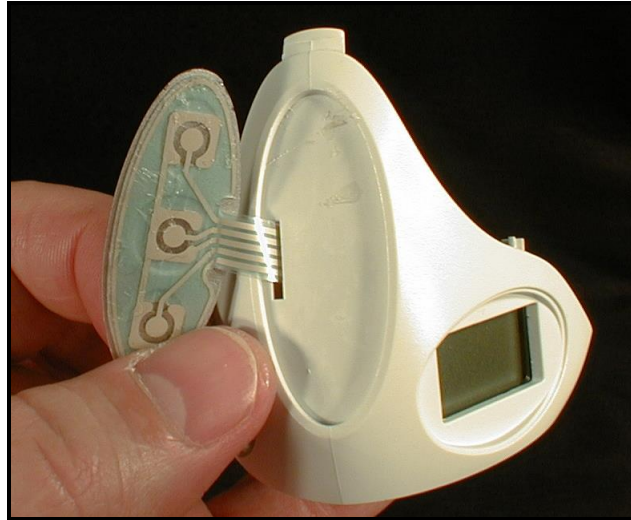

Figure 4 Inserting keypad assembly to base
1. Install the new Keypad Assembly as shown in **Figure 4**. Be careful when aligning to base, once adhered, it cannot be removed without damage!